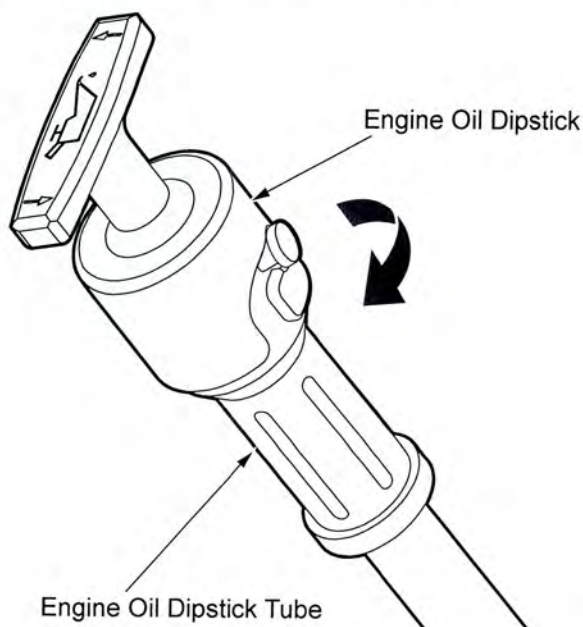

Figure 3
3. Install the replacement engine oil dipstick A1031004-001 into the tube and twist clockwise to lock in place (see Figure 3).